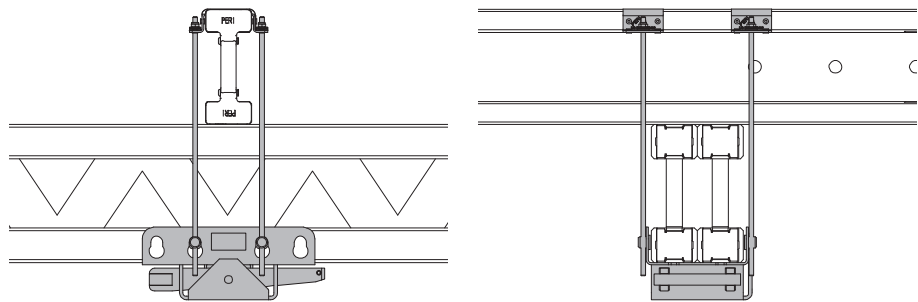

Fig. B2.03
(Fig. B2.03)
3. Position 4x Girder VT 20K (5a) as main beams on the Table Heads TK (26) and align exactly with the stopping boards. (Fig. B2.03)